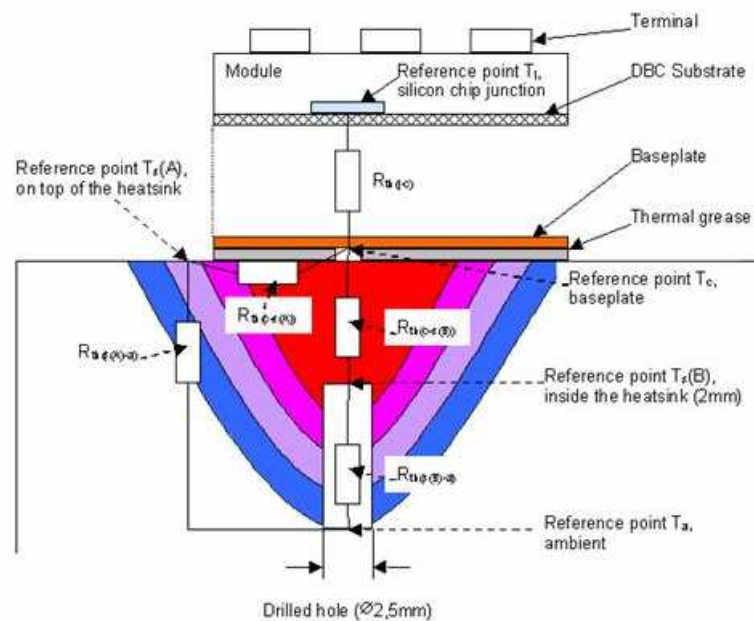
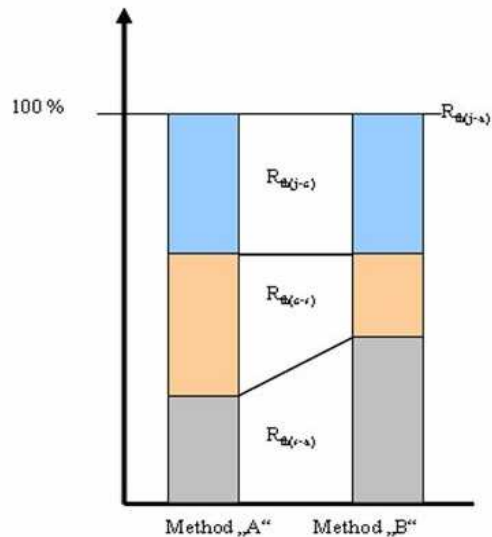

Fig.3 Thermal distribution and positions of different reference points for T_j , T_c , T_s and T_a for the methods A and B
Fig.4 Comparison of the resulting R_{th} values for the different methods
distribution inside the heat sink (as shown in *Fig.3*), the temperature difference $\Delta T (= T_c - T_s)$ is very small, meaning that $R_{th(c-s)}$ will be very small, too.
Fig.3 shows the temperature distribution and the location of the reference points for the different measurement methods. If equation (1) is taken into consideration, it is clear that $R_{th(c-s)}$ in method B must be smaller. That said, the reduction in $R_{th(c-s)}$ must ultimately be added to $R_{th(s-a)}$ (see *Fig.4*), meaning that at least the thermal resistance $R_{th(j-a)}$ between junction and the ambient turns out to be the same, regardless of what measurement method is used.